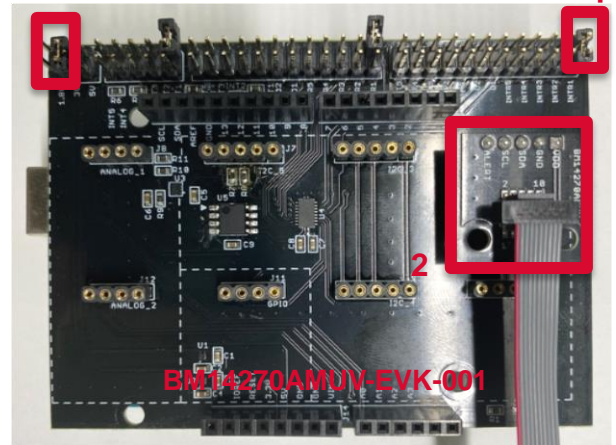

Figure 2. Connection between BM14270AMUV-EVK-001 and the SensorShield
2. Connect BM14270AMUV-EVK-001 to the socket of I2C area on the SensorShield (Figure 2)
3. Set Voltage of the SensorShield to 3.0V (Figure 2)
4. Set Interrupt pin to INTR1 (Figure 2)